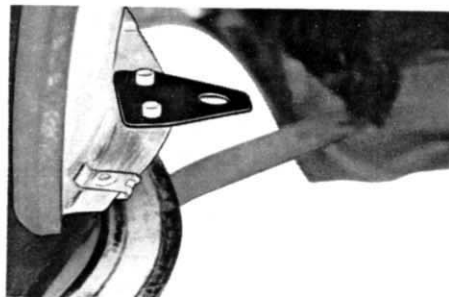

Figure 6
10. Attach fastening plate to **upper surface** of edge flange with rivets (flat rivet head faces down). (Figure 6).